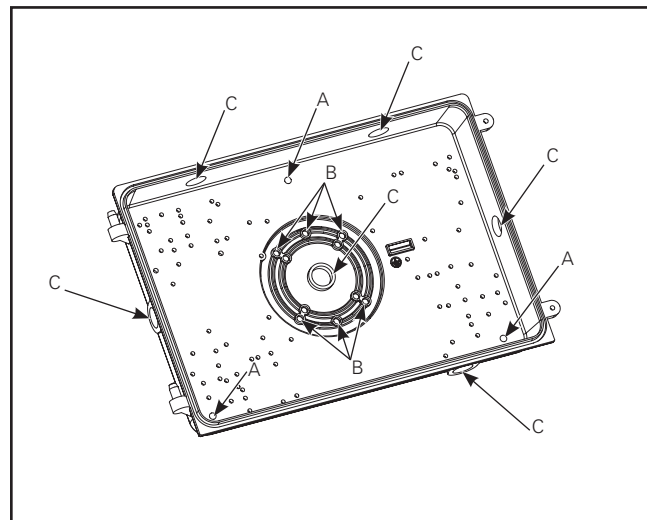

Figure 2.
2. The back plate has a cast-in drill pattern template to match standard recessed junction boxes (B), surface mount holes (A), or 1/2" NPT tapped hole for surface conduit (C): Prepare the back plate for mounting by drilling or knocking out the appropriate holes. (Figure 2)